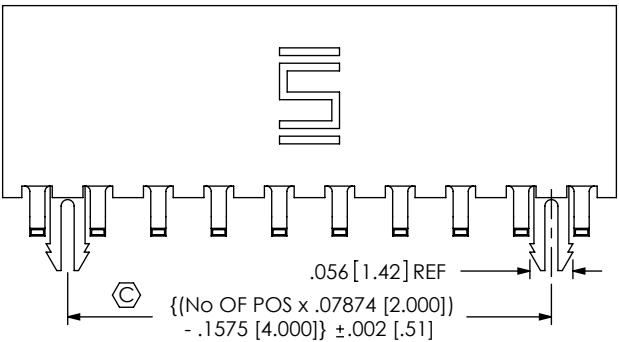

FIG 4
- LC: LOCKING CLIP (5 POS MIN) (USE LC-07-TM, SEE FIG 4, SHT 2 & NOTE 8)